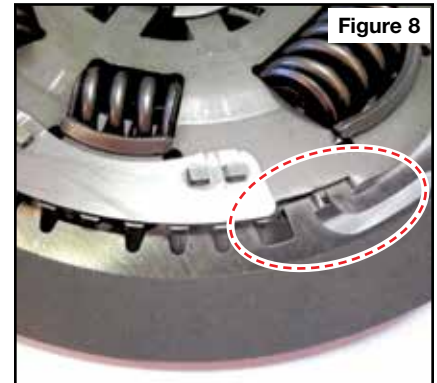

Figure 8
- a. Assemble Sonnax clutch plate ZF-CP-13 to OE damper by aligning the two fingers shown (Figure 8) and attaching to the right of the third and still secured plate.
- Turn the two OE plates over and replace them back in their original positions, sliding them over the modified rivets (**Figure 8**).